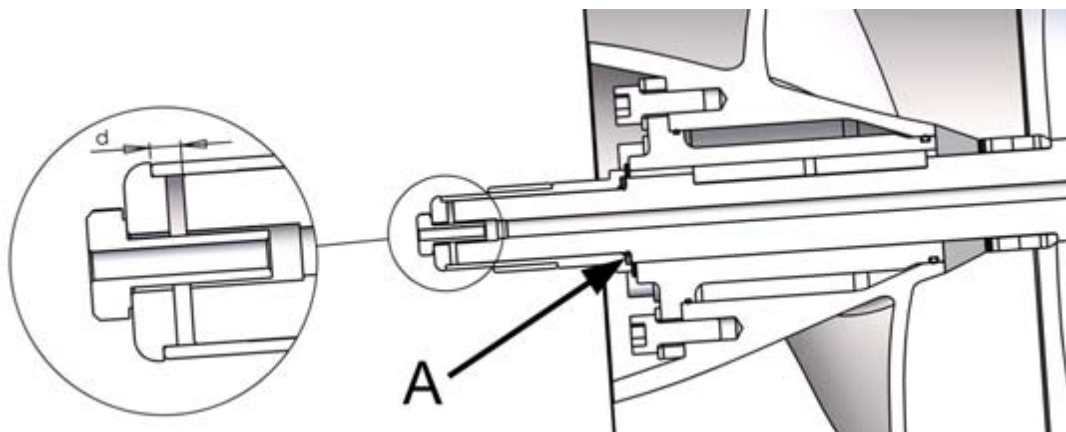

Figure 40. Checking the position of the sleeve
8. Place the o-ring on to the shaft against the shoulder (figure 40, point A) and the shim rings against the rear surface of the impeller.